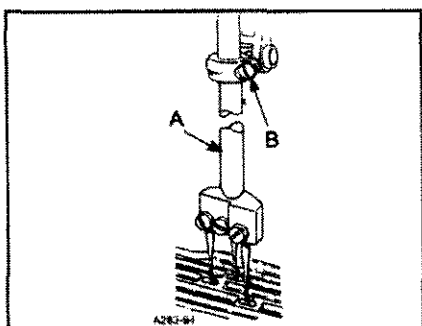

FIG.4
Insert a new set of needles , type and size specified, with screw (B, Fig.4) slightly loosened, lower needle bar(A) and turn needle head as required until the needles are centered in the throat plate needle hole slots . Tighten screw (B) torque to 19-21in. lbs.(2.1-2.4Nm).